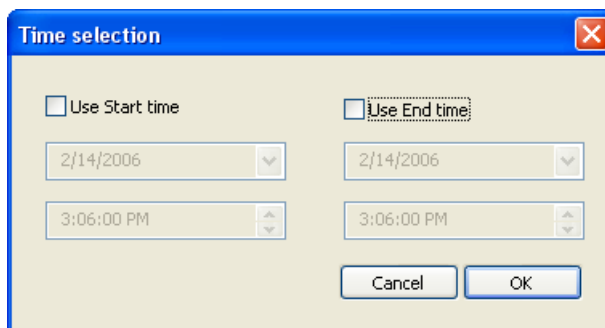

Figure 223. Time Selection in Archive Tool
**Action / Insert Data into logs** is used to insert the data into the log. The data will be merged into the existing logs. When inserting data into logs the start and end time for the data to insert can be chosen in the Time selection dialog. If no checkbox is checked, all data will be inserted. See Figure 223.